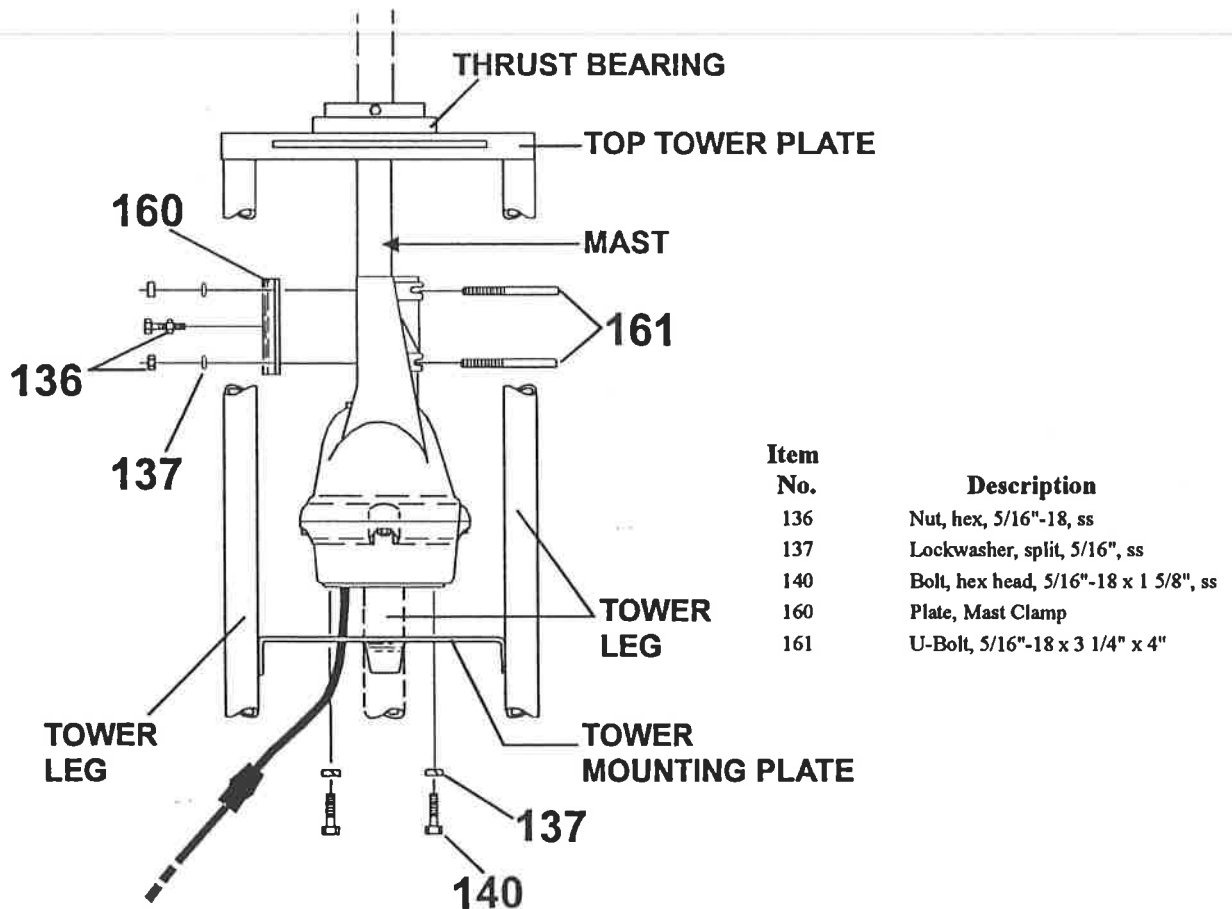

Figure 4
There are three general types of installations (see Figures 4, 5 and 6).
The rotator is mounted inside a tower (see Figure 4) to the flat tower plate by means of six (6) bolts furnished in the hardware kit. Use the following procedure:
3. The rotator is attached to the tower plate by means of six (6) bolts and lockwashers (see Figure 4). The flat tower plate must be drilled in six (6) places using the template provided with this manual unless the tower plate is already properly drilled.
4. Tighten the six (6) bolts, but not to final tightness. Observe how the rotator turns. It must rotate in such a manner as to turn the mast concentrically in the thrust bearing.
5. Trial assemble the mast to the top of the rotator using the U-bolts, nuts and lockwashers through the rotator and clamp plate as shown in Figure 4. The maximum mast diameter that may be used is 2 1/16" O.D. We recommend 1 1/2" nominal steel pipe with 1.9" O.D. in standard wall thickness of .145". For stacked arrays or very large beams, we recommend extra heavy-duty wall thickness of .200". Both steel pipes can be purchased to specification ASTM-120.
8. Drill through the antenna mast and rotator casting, using a 5/16" drill. Locate the hole in the clamp plate that is furnished. Insert the bolt through the clamp plate, mast, and rotator and tighten all bolts to 150 inch-pounds. Refer to Figure 4.